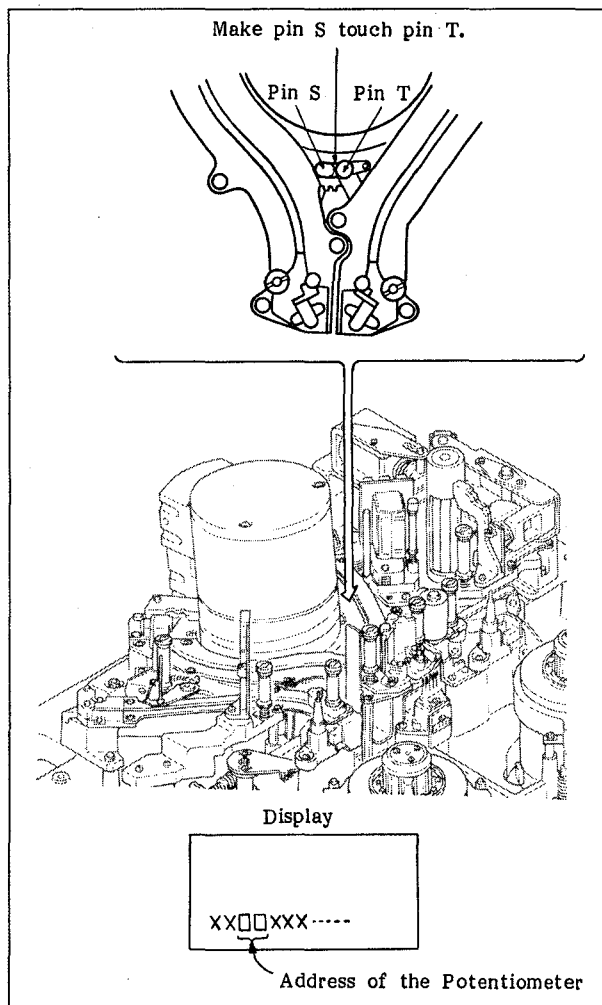

Fig. 6-64. Adjustment of the Address of the Potentiometer in Unthreading Condition
- Remember the two-digit number on the display, shown in Figure 6-64.